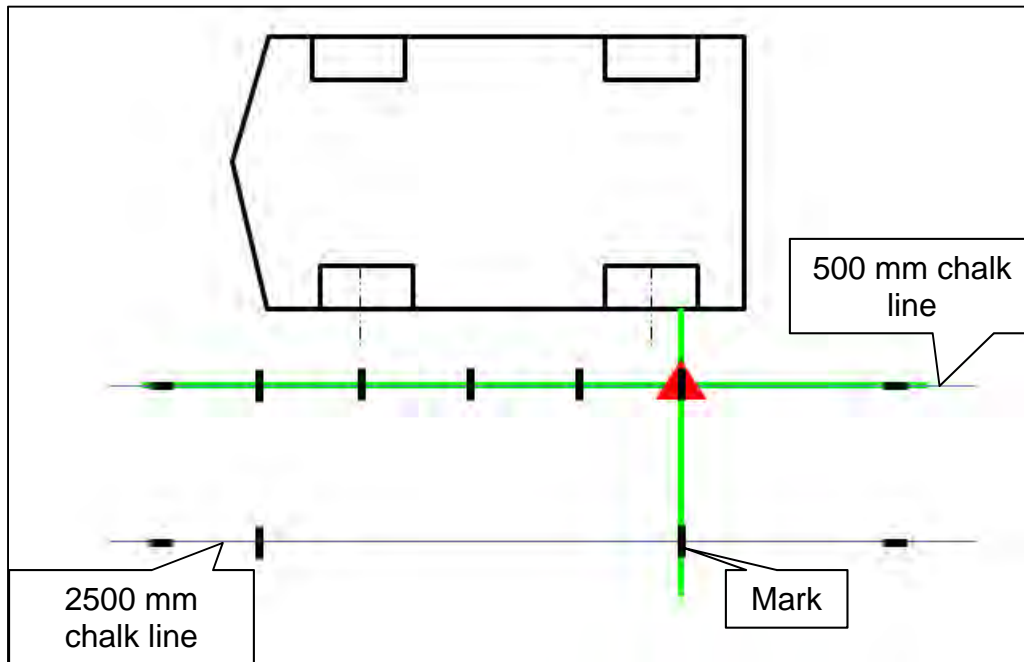

Figure 41
30. Move the laser level to the position shown in Figure 41, and then make a mark on the 2500 mm chalk line.